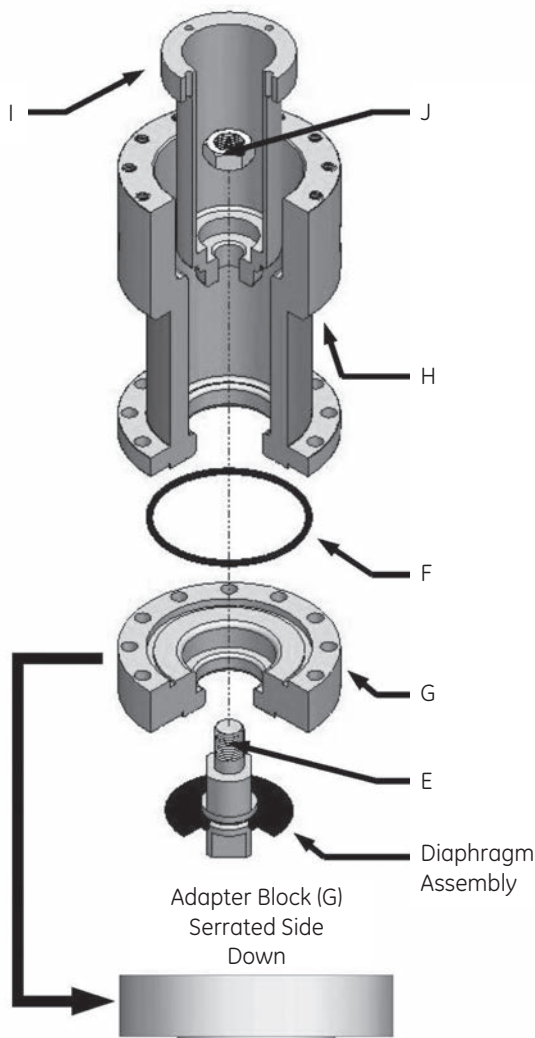

Figure 33 – 1000/1500-CH Adapter Block Assembly
- Step 1:** Insert the 145 O-ring (F) into the adapter block (G).
- Step 2:** Place the adaptor block (G) between the diaphragm assembly and spring chamber (H) as shown in Figure 33.
- Step 3:** Slide the inner tube (I) through the spring chamber (H).
- Step 4:** Attach the thread extension (E) to the inner tube (I) using 1/2 inch - 20 inch SS jam nut (J).
- Step 5:** Torque the jam nut (J) to 180 to 220 in-lbs.